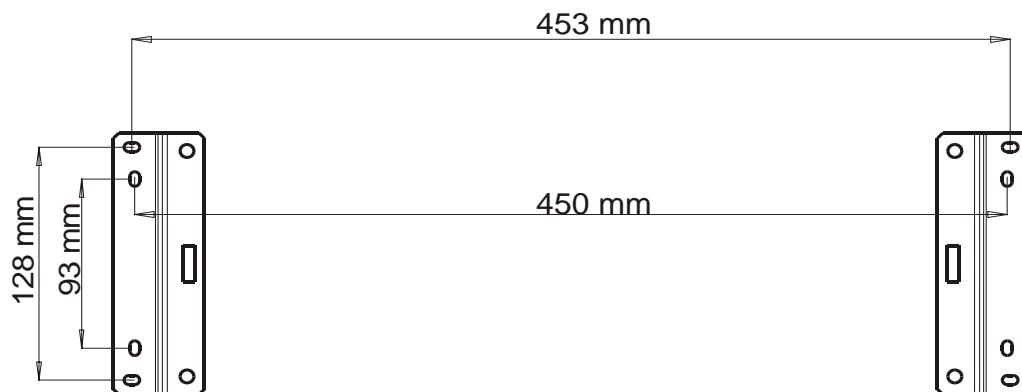

Figure 2-7 RTU Metal Chassis Installation Dimensions
- 2) Drill four holes into the wall at the horizontal and vertical distances shown in Figure 2-7.